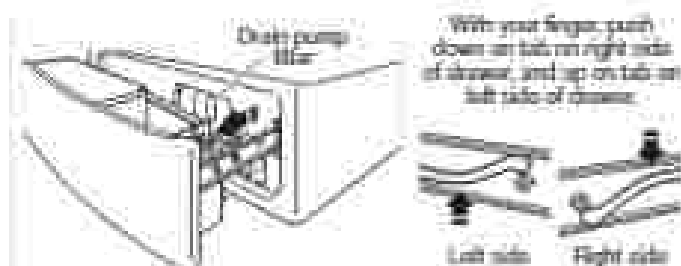

Figure 1
1. Open the dispenser drawer by pulling on the handle at the base of the washer. This will reveal the drain pump filter. Remove the drawer by releasing the tabs on each side. See Figure 1.